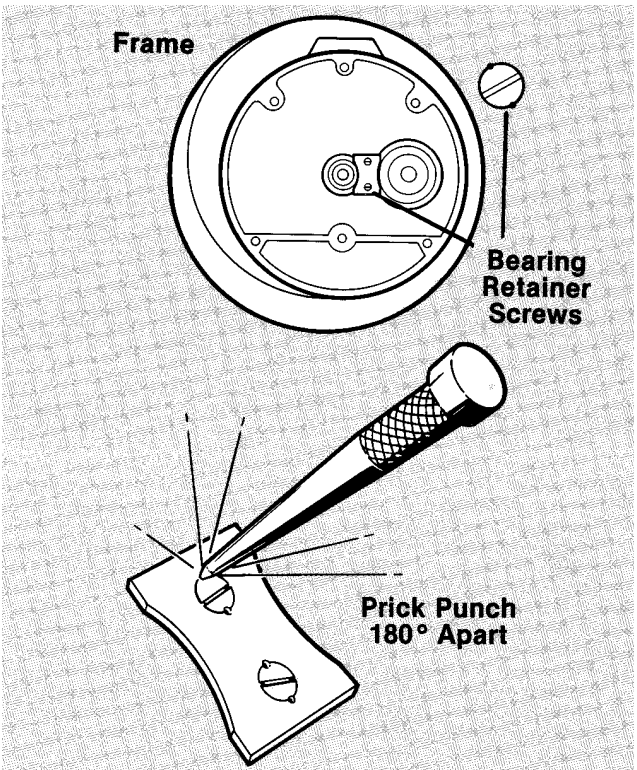

FIGURE 13. Bearing Retainer Screw
**Bearing Retainer Screws.** Whenever the bearing retainer screws have been removed and replaced, they must be locked in place by prick punching the head (see Figure 13). Always use new spots for locking.